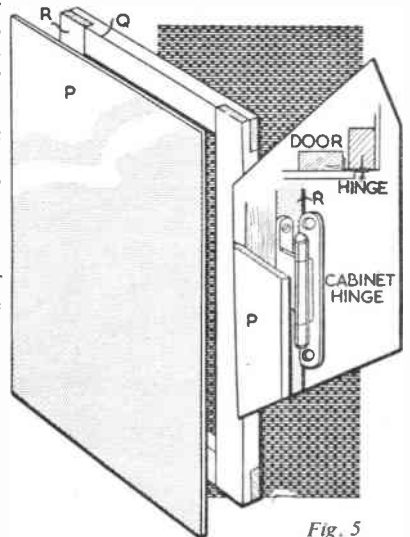

Fig. 5
The door consists of a frame, pieces (R) and (Q) of 1in. by 1½in. wood halved together and covered with hardboard, which overlaps about ¼in. all round. The diagram in Fig. 5 shows the construction and also shows a detail of the special cabinet hinge which may be used. If you examine the hinge you will see quite clearly how it may be fixed. Hobbies No. 711 handle is screwed in place and a ball catch fixed inside.